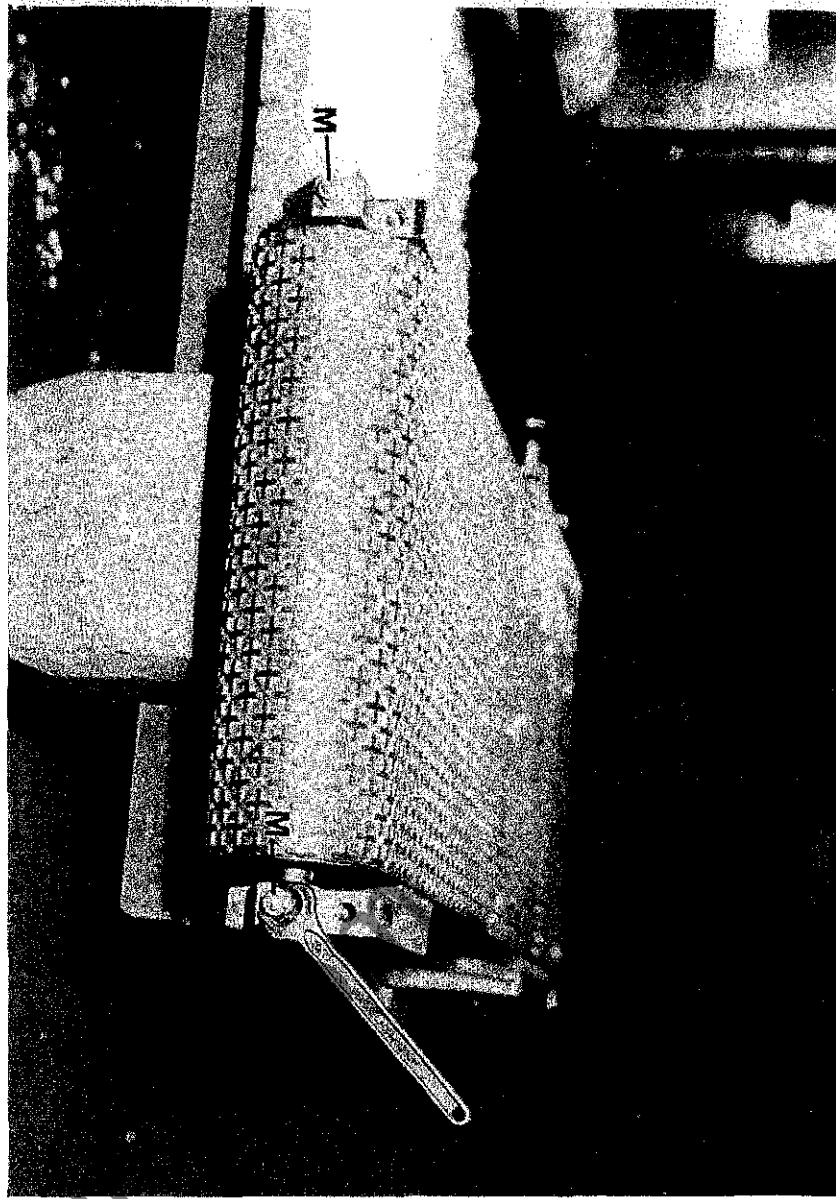

Fig 40
- 18) Loosen 2 - M8 aerotight nuts "M" to release belt tension FIG.40.